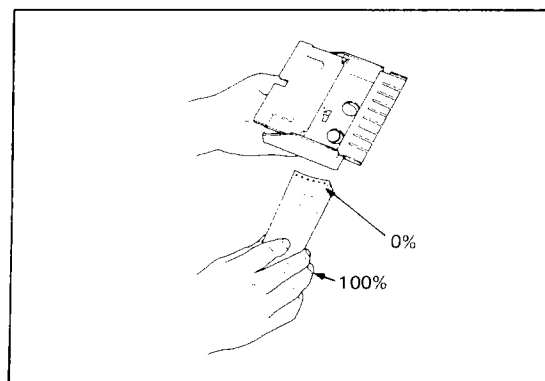

Figure 5-7. Holding Chart and Chart Stock.
- (5) While holding the stock as shown in Figure 5-7, and guiding the chart with your fingertips, push the chart into the stock so that the chart bottom completely contacts the chart stock bottom.